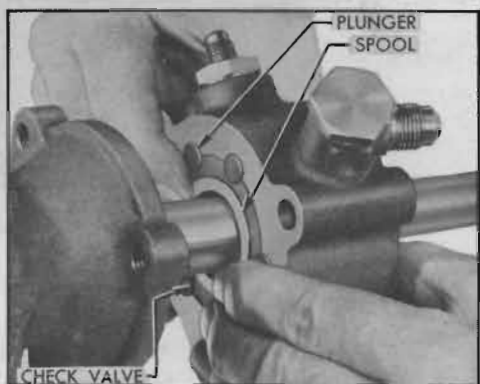

Figure 7-30—Installing Hydraulic Valve
6. With steering shaft horizontal, install valve assembly with check valve toward gear housing, using care to keep parts from sliding out of housing. See figure 7-30.